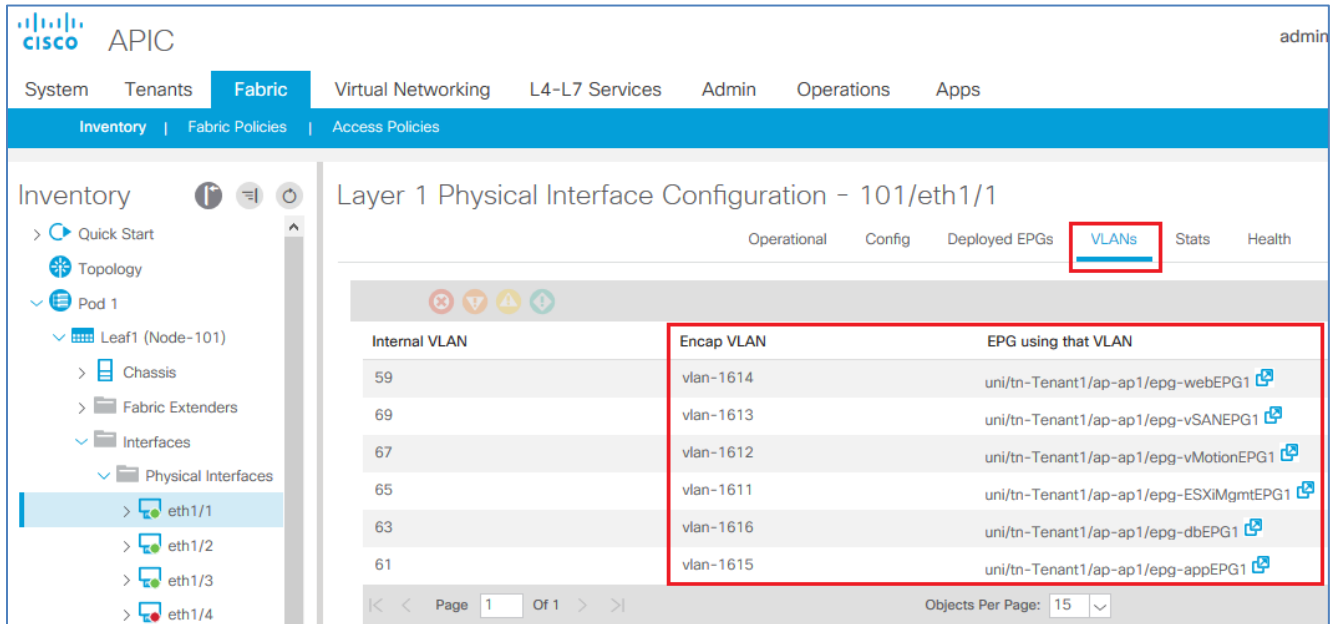

Figure 81 Cisco ACI interface VLANs and EPGs
- With an interface selected in the left navigational panel, click the **VLANs** tab in the navigation window as shown in Figure 81.